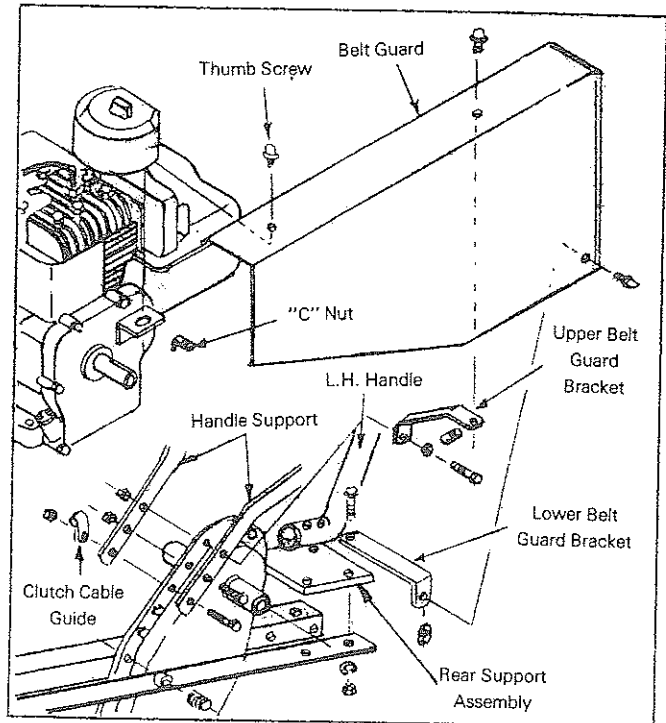

Figure 2
5. The forward ends of the handle supports align with three holes provided on transmission case. Attach a clutch cable guide on lower screw of the right hand handle support and a belt guard bracket and washer on upper screw of left hand handle support. One screw, 1/4-20 X 1, two screws, 1/4-20 X 1-1/4, and three hex locknuts are required. (See Fig. 2)